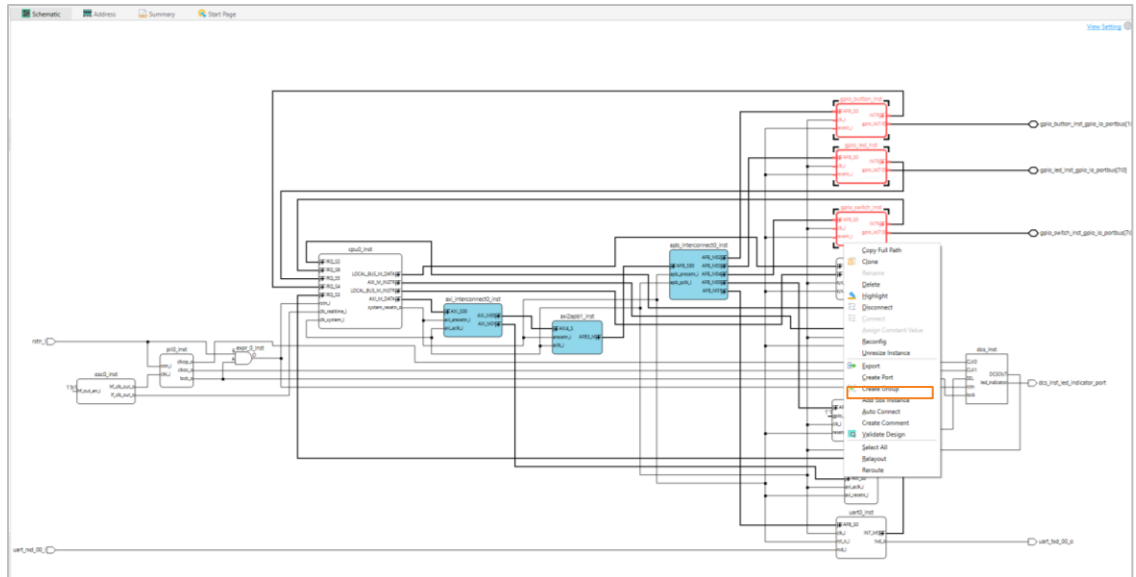

Figure 2.70. Create Group Right Click
- Support creating group with selected instances. Click on the instances you want to group, and right-click on them, choose **Create Group** (Figure 2.70).